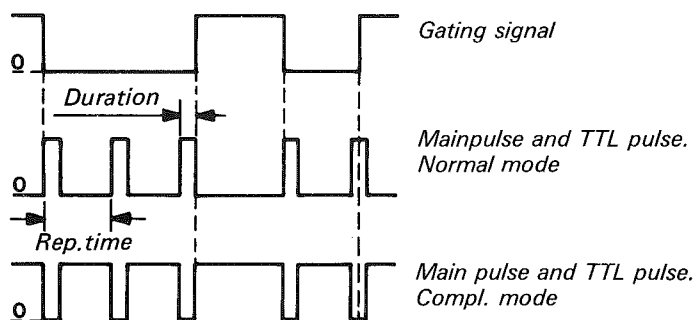

Fig. 6.6. Gated pulse.
- Select the proper relationship between pulse repetition time and duration and corresponding parameters of the gating signal. Refer to fig. 6.6.
- As shown in fig. 6.6 a gated pulse train is available at the TTL OUT outputs as well.
- Depress switch SINGLE SHOT and note that generator is turned off as long as switch is depressed. Refer to fig. 6.6.